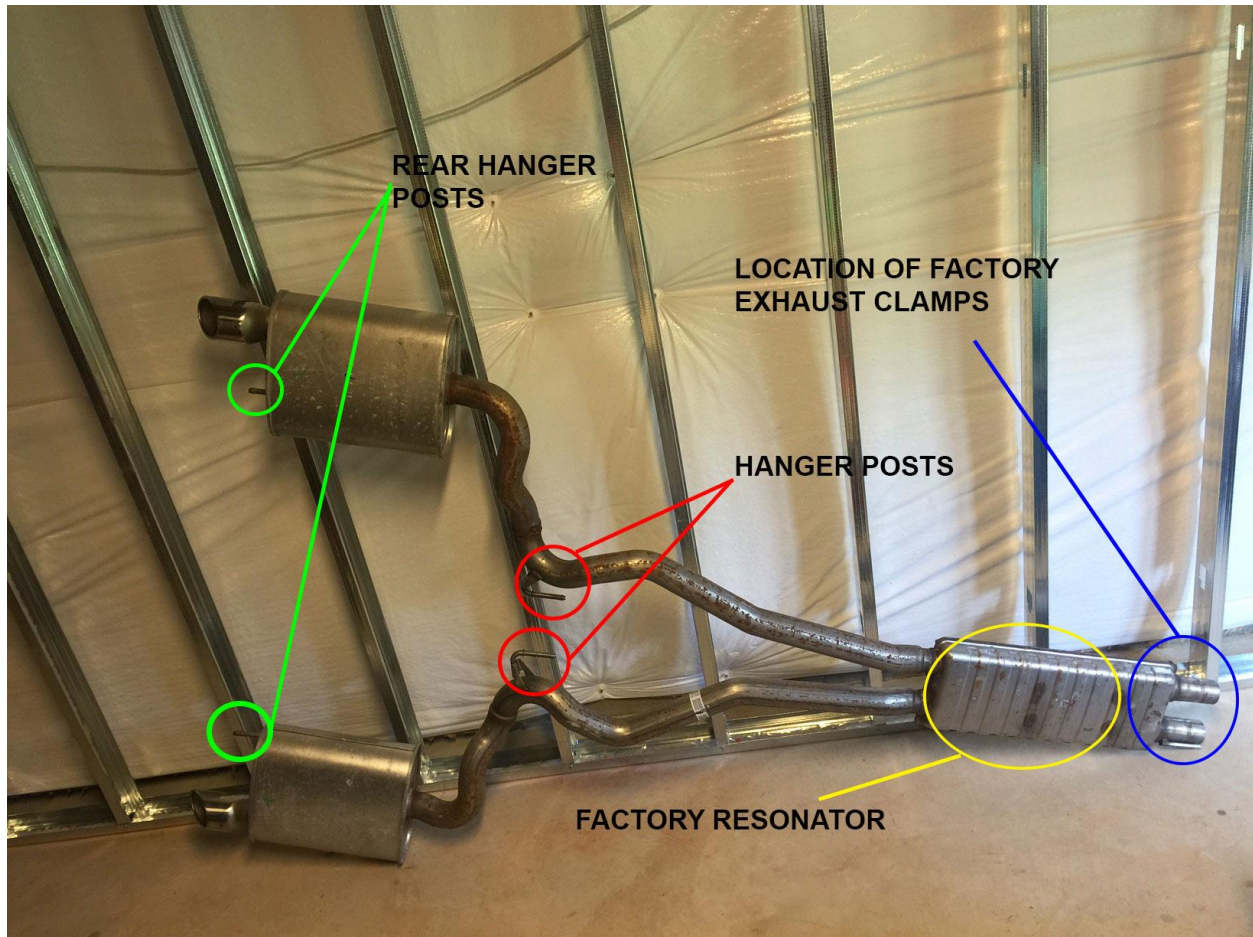

Figure 1A Factory Exhaust
2. Locate the resonator (See Figure 1A) and start by backing off the four 15mm nuts located on the two clamps (See Figure 1b) just before it connects to the catalytic converter pipes. Don't take the nuts all the way off but just enough to be able to move the clamps. Do this on both sides.